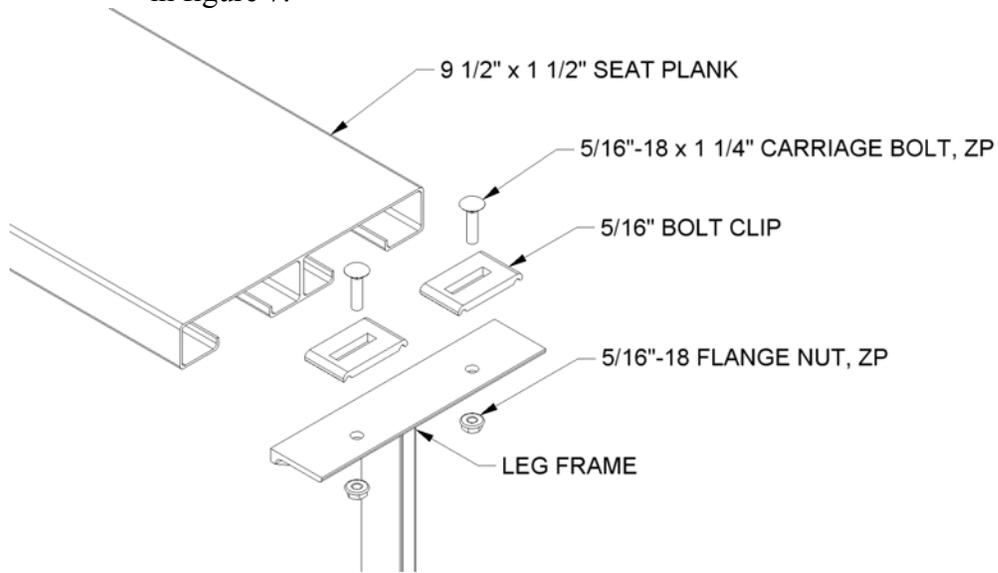
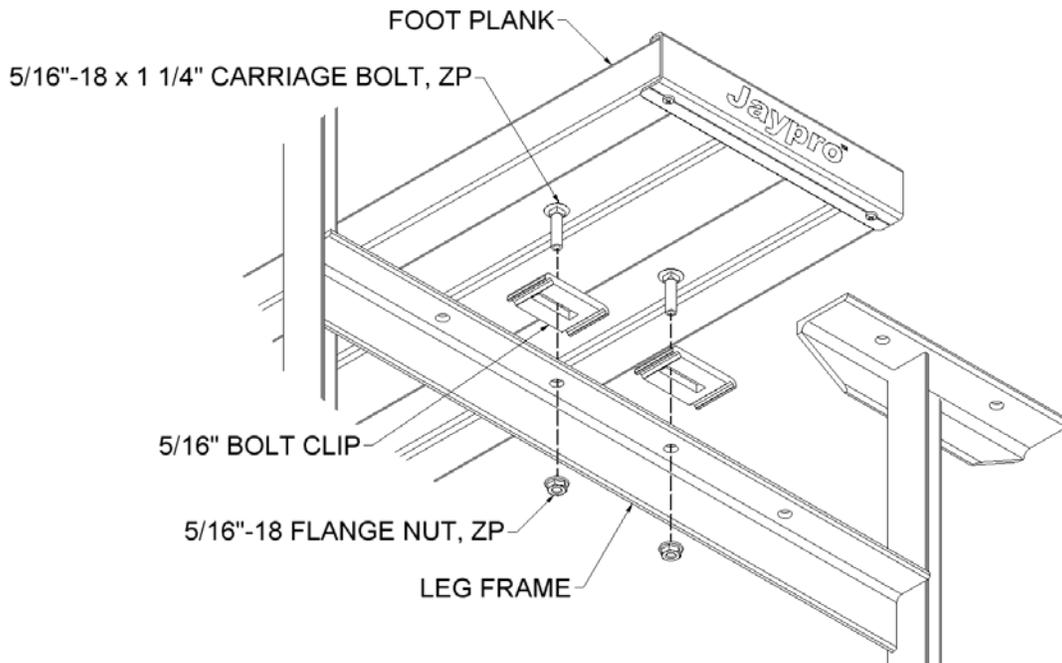
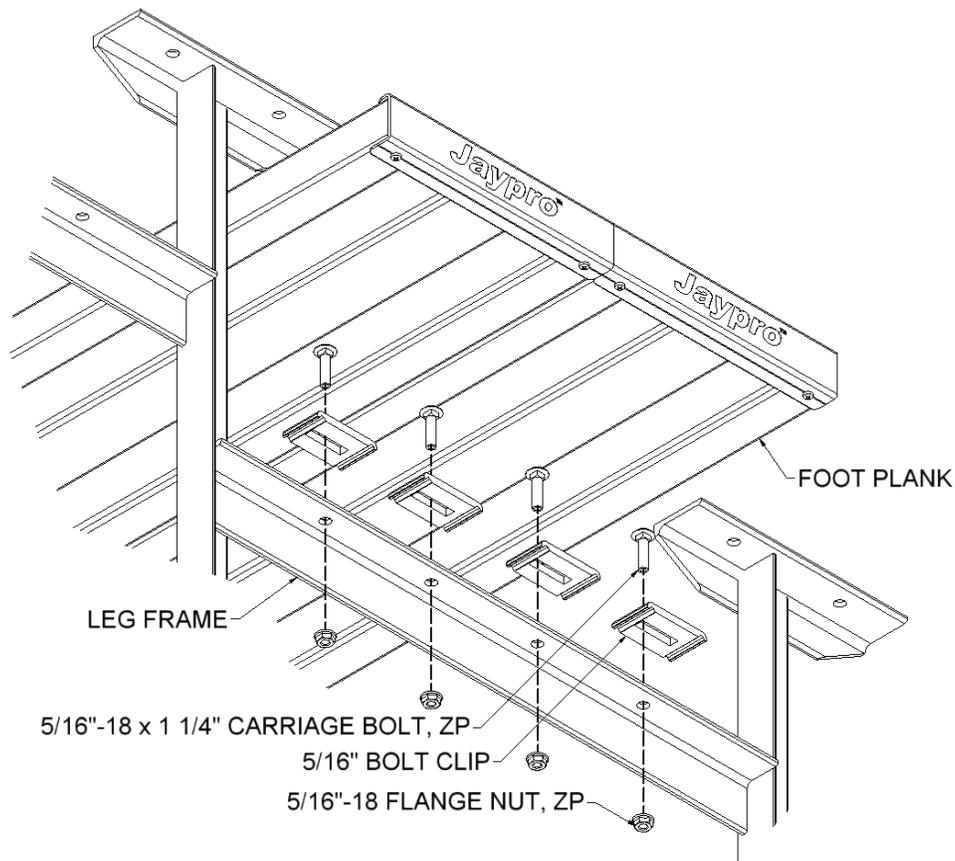

FIGURE: 5
FIGURE: 6
FIGURE: 7
5. Making sure the undercarriage frame is square and plumb, install the seat and foot planks. The seat and foot planks are best installed starting from the front seat and working towards the back. Use the hardware and bolt clip as shown in figure 5. Position planks so they are centered on the frame, with equal amount of overhang on each end. Note that standard bleachers (BLCH-3AL & BLCH-3TRG) have a single foot plank, which is centered on the support frame, see figure 6. Preferred bleachers (BLDP-3AL & BLDP-3TRG) have double foot planks and are installed as shown in figure 7.